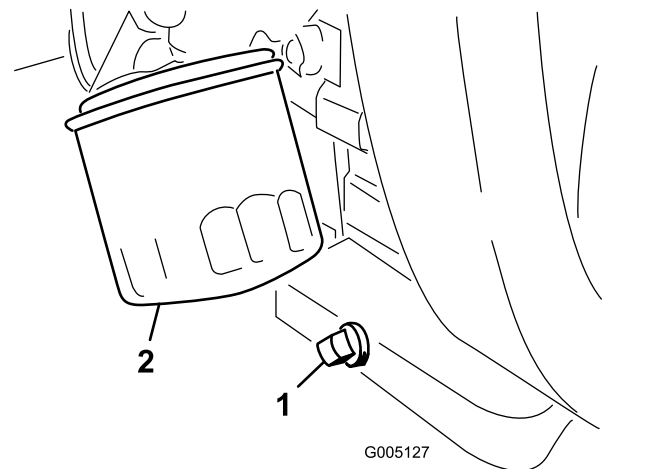

Figure 34
1. Remove the drain plug (Figure 34) and let the oil flow into a drain pan.
- Clean the threads of the drain plug, apply PTFE sealant, and install the drain plug (Figure 34).
- Remove the oil filter (Figure 34).